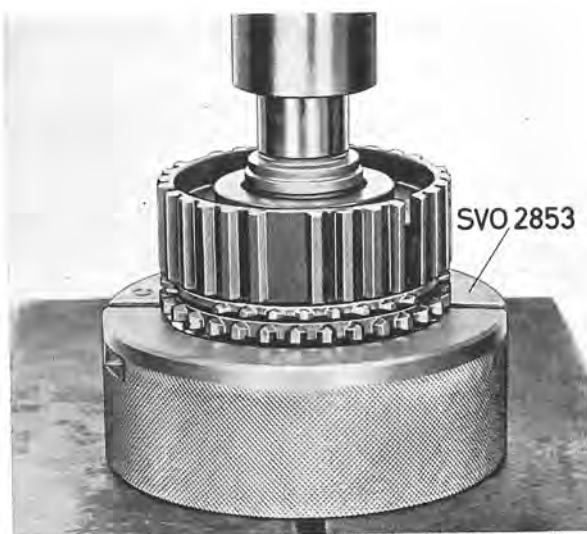

Fig. 4-26. Disassembling mainshaft, II
4. Revert the shaft and place it in the press as shown in Fig. 4-26. Press off 3rd speed gear wheel and 4th speed synchronizing hub.